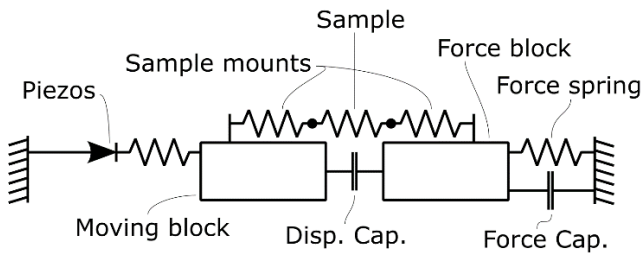

Figure 1: Simplified functional diagram of a UC200
In order to understand the pros and cons of each type of sensor, it is first necessary to understand how they work. Figure 1 shows a simplified drawing of the key parts of a UC200 cell, which contains both force and displacement sensors. The FCxxx series cells are very similar except that the displacement sensing capacitor is missing. The CSxxx series cells are also similar, except that the force capacitor, force block and force spring are missing. Instead, the sample and displacement capacitor are joined directly to the fixed end.
- ✦ The magnitude of the stress/strain depends on the relative stiffness of all the springs shown in figure 1. Including the one shown as part of the piezo (which is related to the cell spring constant in the datasheet of the cell).